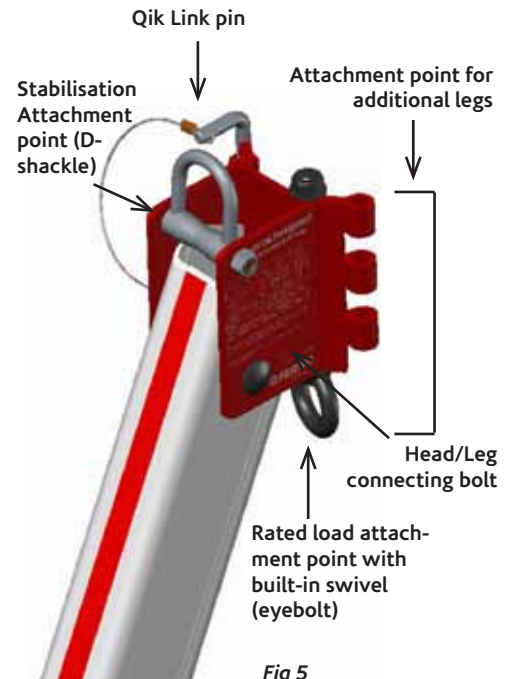

Fig 5
2. Inspect the leg pin (Fig 5) ensuring smooth operation. When button is depressed, small ball stoppers on other end of pin should release.
Standard Leg (Fig 5)